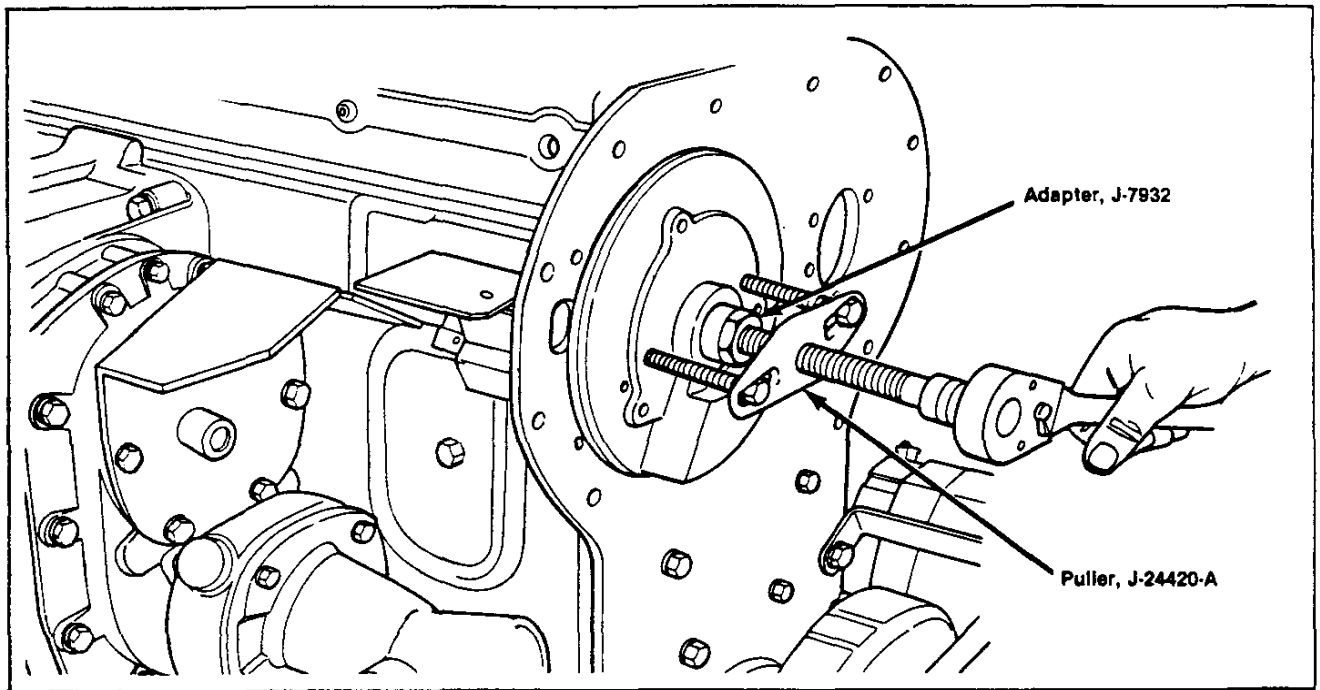

Figure 8B
4. Use adaptor J7932 between the end of the camshaft and the puller screw to protect the end of the cam (Fig. 8B).